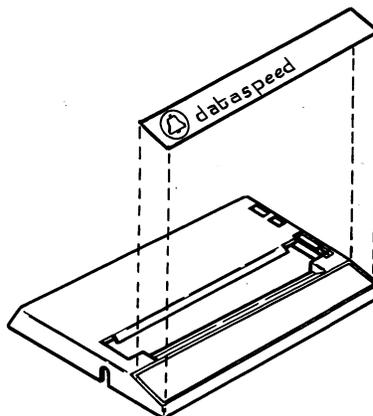

Fig. 7
- 3.12 Remove the protective backing from the 454634 nameplate label. Apply the label to the cover as shown in Fig. 7. Press firmly on the label to insure all areas are adhered to the cover.